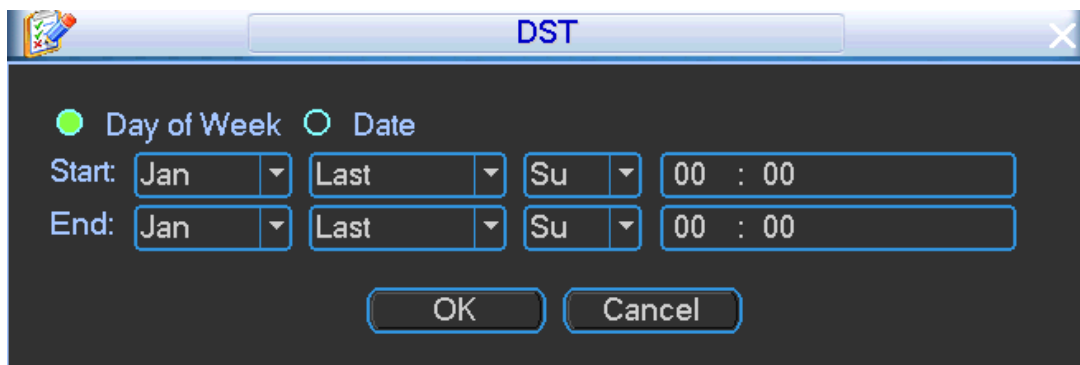

Figure 4-73
- DST: Here you can set DST time and date. Please enable DST function and then click set button. You can see an interface is shown as in Figure 4-73. Here you can set start time and end time by setting corresponding week setup. In Figure 4-73, check date button, you can set start time and end time by setting corresponding date setup.